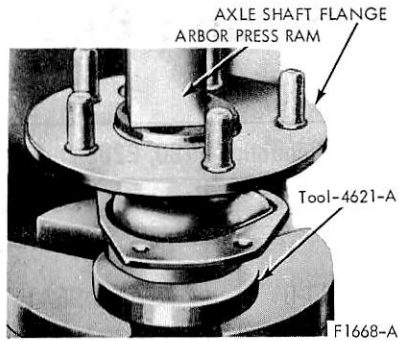

FIG. 3 Installing Rear Wheel Bearing
3. Place the bearing retainer plate on the axle shaft, and press the new wheel bearing on the shaft with the tool shown in Fig. 3. **Do not attempt to press on both the bearing and the inner retainer ring at the same time.**